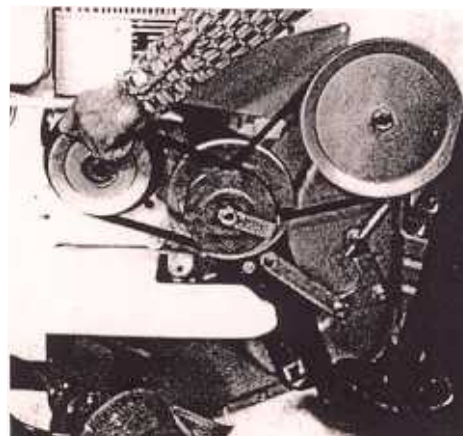

Figure 13
- 2 Pull back on the control lever and unhook the front belt from the engine pulley. (See figure 13.)